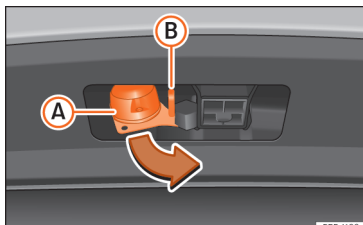

Fig. 275 Turn the 13-pin connector.
- Grip the 13-pin connector at area **(A)** and remove it in the direction of the arrow »» **Fig. 275**.
- Grip the 13-pin connector at area **(A)** and insert it in the opposite direction to the arrow »» **Fig. 275**.
The safety lug **(B)** »» **Fig. 275** is used to hook up the trailer's retainer cable.